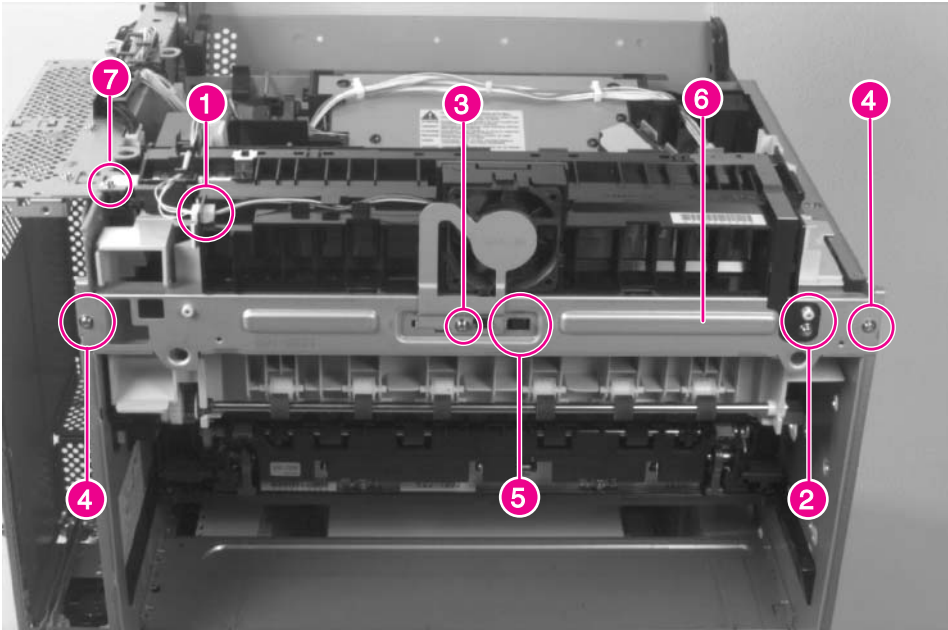

Figure 6-12 **Delivery Unit (1 of 2)**
- 2** Unplug and re-route the fan cable out of the way (figure 6-12, callout 1).
- 3** Remove 1 screw (figure 6-12, callout 2) to loosen the grounding strip.
- 4** Remove 1 screw (figure 6-12, callout 3), and remove the metal fan shield.
- 5** Open the Diverter Assembly access door, remove 2 screws (figure 6-12, callout 4), release the plastic retaining tabs (figure 6-12, callout 5), and remove the metal mounting bracket (figure 6-12, callout 6).
- 6** Remove 2 screws (figure 6-12, callout 5) and 1 screw (figure 6-12, callout 7)
- 3 Replace the metal mounting bracket (figure 6-12, callout 6) before replacing the Delivery Unit screws. Make sure that the plastic clips (figure 6-12, callout 5) are snapped into place before tightening the mounting screws (figure 6-12, callout 4).